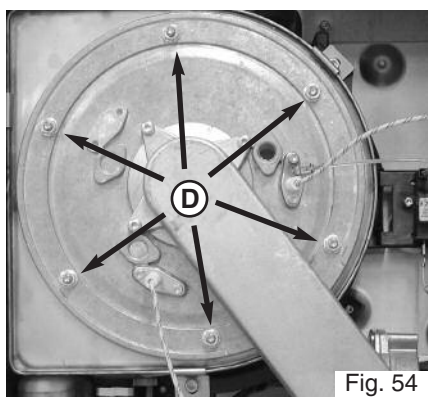

Fig. 54
7. Unscrew the 6 nuts **D** on the combustion chamber (Fig. 54);